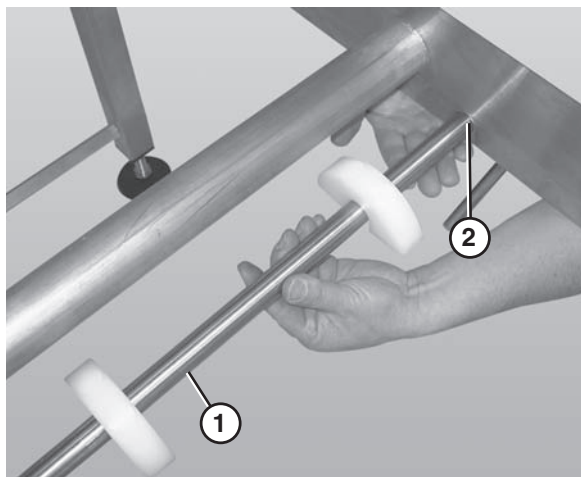

Figure 52
1. Remove the belt returns by pushing up on the return shaft (Figure 52, item 1) and sliding it through the large hole (Figure 52, item 2) in the frame.
2. Lower the opposite end of the return shaft (Figure 52, item 1) and slide it out of the frame.